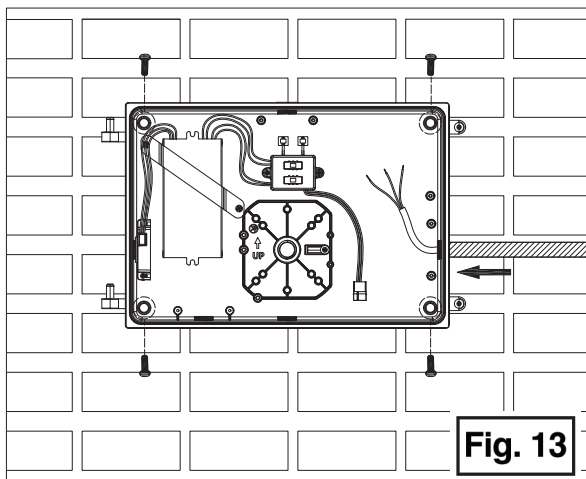

Fig. 13
5. Using four (4) anchor bolts (not included), secure the back plate to the wall and pull the supply wires into the fixture through the KO hole. **Note:** These bolts provide structural support, anchoring the fixture to the wall. Please use a UL certificated waterproof conduit, compatible with the 1/2 NPT KO hole. (See Fig. 13)